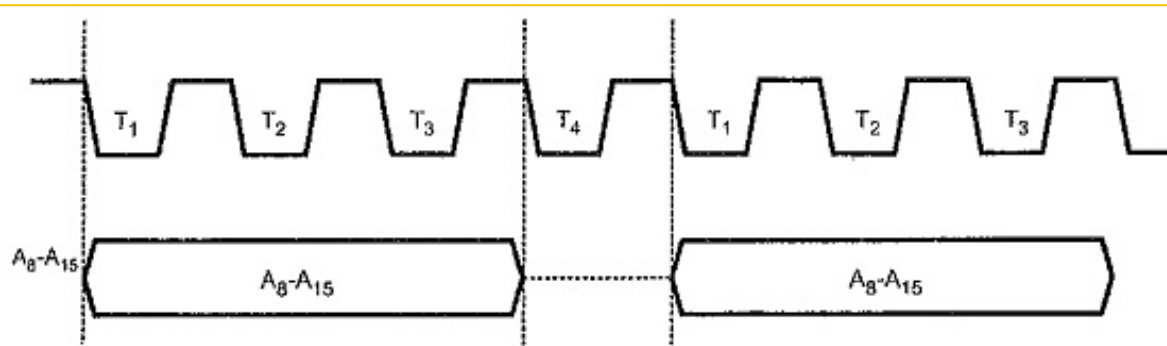

Fig. 1.12 Higher byte address on $A_8 - A_{15}$
- ❖ The higher byte of address is available on the $A_8 - A_{15}$ bus during **T1, T2 and T3** – states of each machine cycle, except **bus idle** machine cycle, as shown in Fig. 1.12.